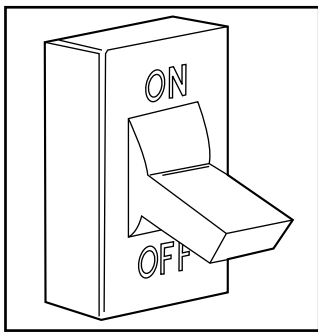

Fig. 8 - Turn Off Electrical Supply
3. Turn OFF electrical supply to the furnace. See Fig. 8.